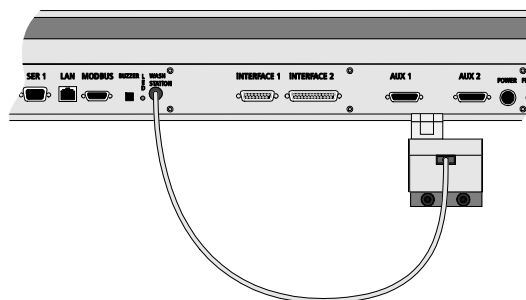

Figure 11. Electrical Connection from the DLW Pump Holder to the PAL-*xt* Board.
8. The other end of the cable is connected to the 'Wash Station' connector on the Control-*xt* board, as shown below in Figure 11.